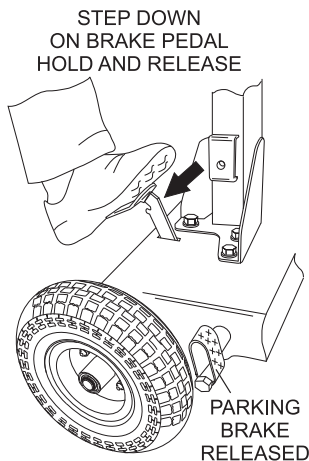

Figure 22. Parking Brake (Release Position)
- Press down on the top of the brake pedal (Figure 22) and hold, then release. This action will dis-engage the brake mechanism and allow the GloBug to be moved.